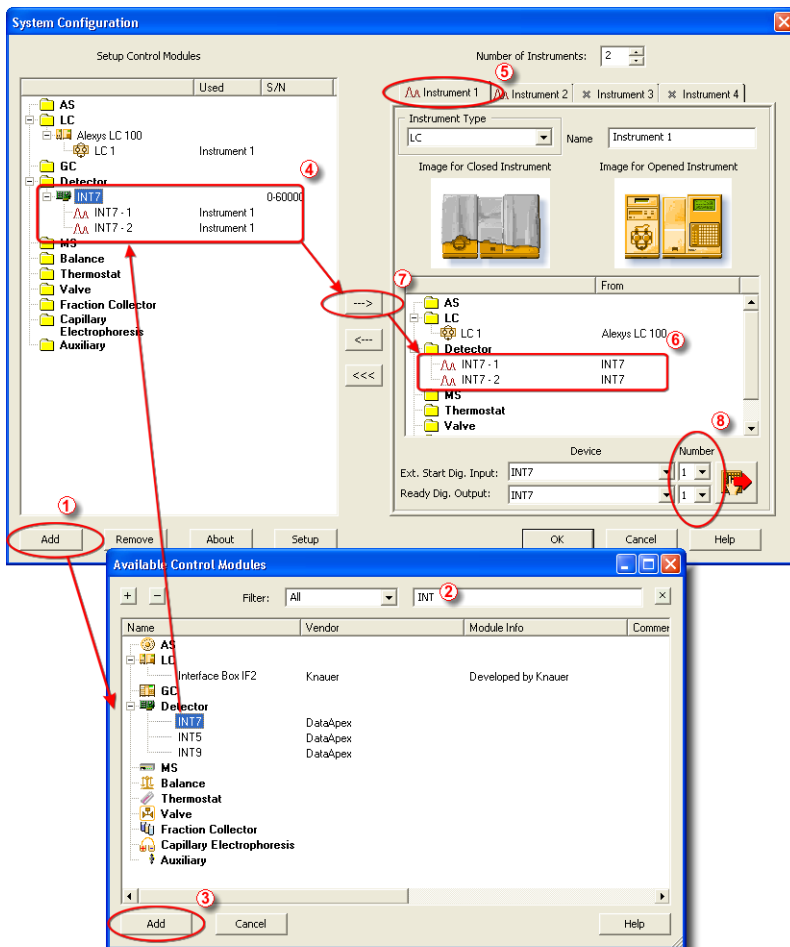

Fig. 4: System Configuration
- Press the **Add** button 1 (See **Fig. 4** on pg. 8.) to invoke the *Available Control Modules* dialog.
- Select the **INT7** and press the **Add** ③ button.
*Note:* The input used for an external start from a chromatograph can be set in the *System Configuration* dialog, see **Fig. 4** on pg. 8.